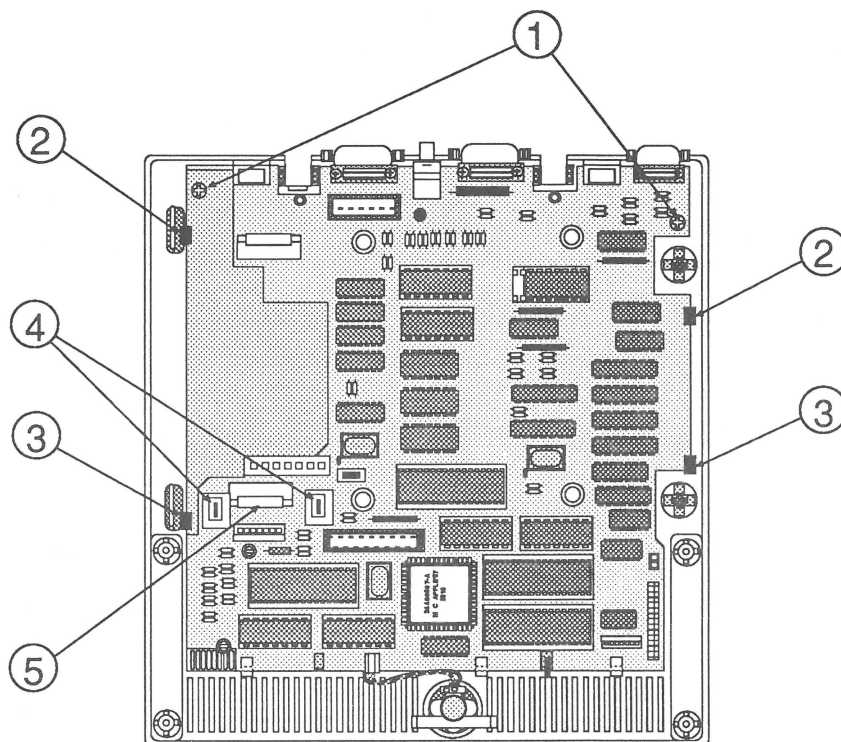

FIGURE 11
3. Remove the two Phillips screws (Figure 11, #1) that secure the logic board to the bottom case.
4. While **carefully** lifting the rear edge of the logic board, release the two rear logic board latches (Figure 11, #2).
5. Continue lifting the logic board and release the two front logic board latches (Figure 11, #3).
6. Continue to lift the rear of the logic board far enough for the logic board to clear the two power supply posts (Figure 11, #4) and the front latch (Figure 11, #5).